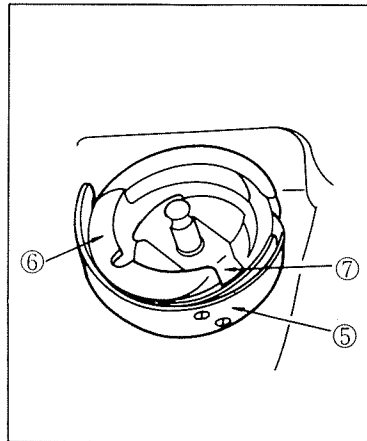

Fig. 17
Thus the sewing hook ⑤ may be removed by rotating it with your hand, positioning the bobbin case holder ⑥ as shown in Fig.17, and then drawing out the sewing hook.
In mounting the sewing hook, plug it onto the hook driving shaft with the relation between the positions of the sewing hook and the bobbin case holder ⑥ maintained as shown in Fig.17.